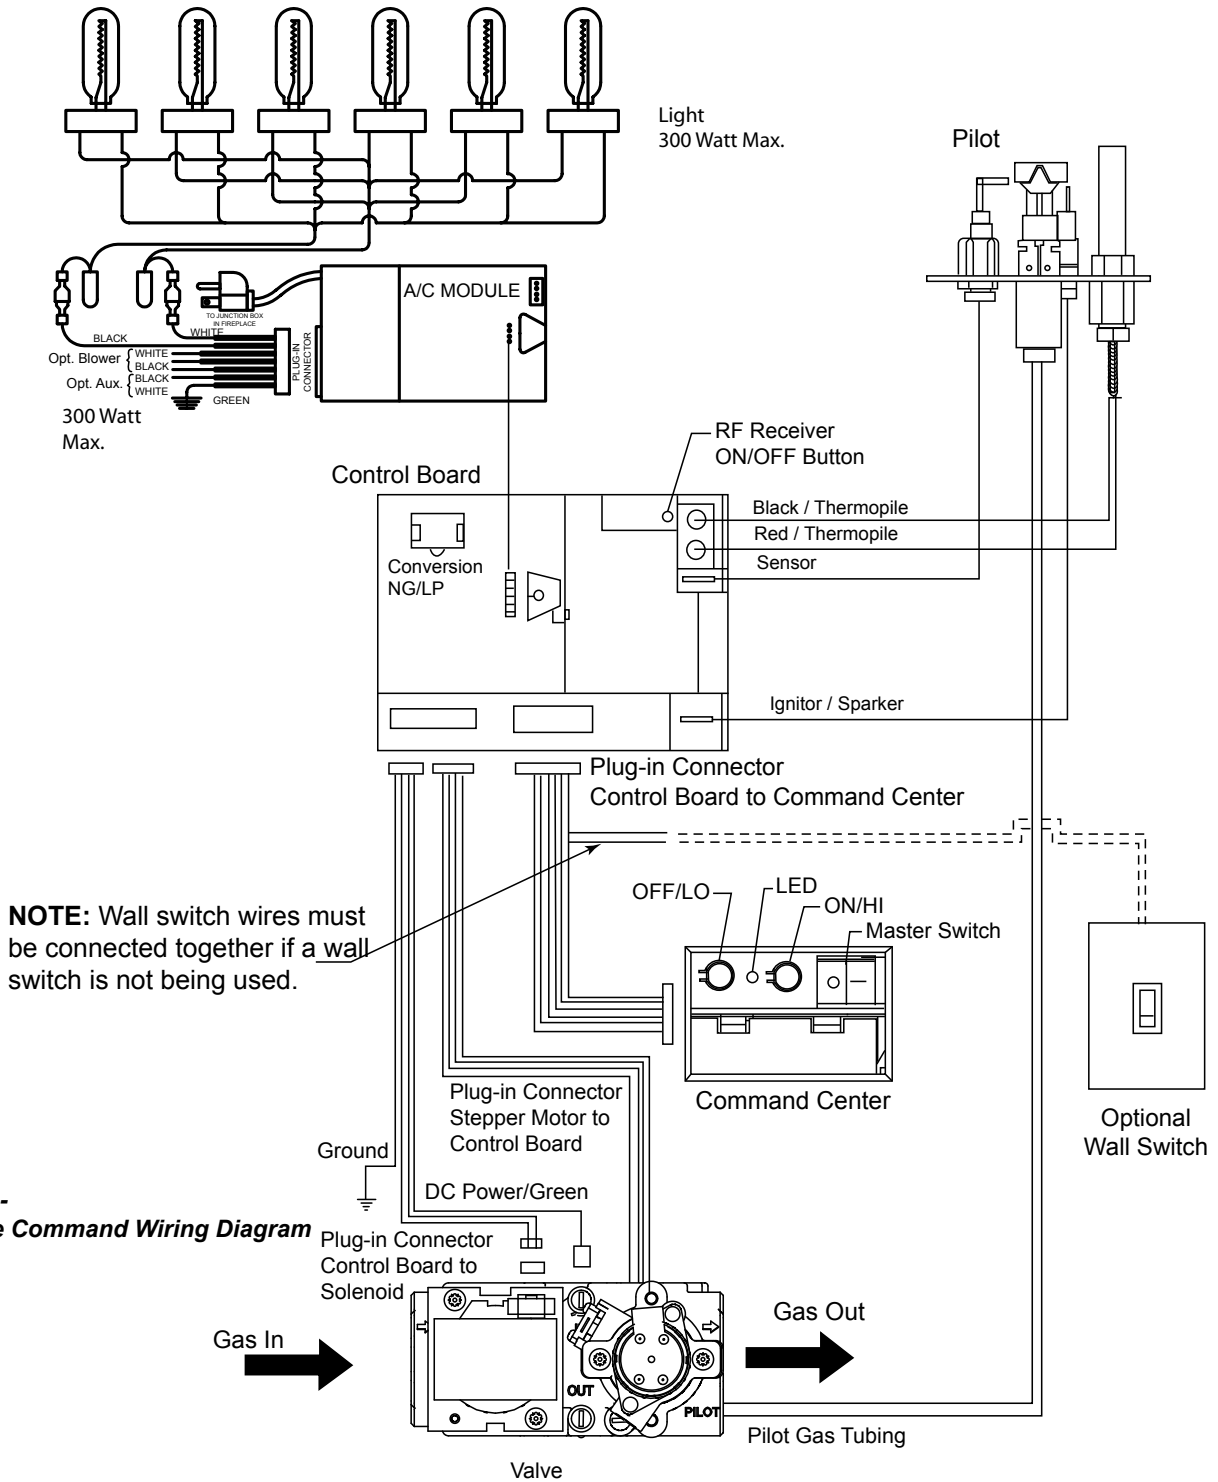

figure 35 - Signature Command Wiring Diagram
The wall switch wire connection is located off the 2 ft. wire harness from the control box to the command center. Figure 35. The connection is labeled "Wall Switch". Unplug the male and female connectors and connect the two (2) low voltage wires provided. Run wire to desired location on wall. Up to 50 ft. of 18 ga. wire may be used if necessary. Attach wires to wall switch. Mount the wall switch in to junction box and screw on cover.